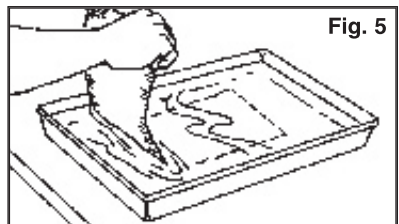

Fig. 5
- Hold corners of first strip with bumpy side out and dip it in a pan, bowl or tray of water (Fig. 5).